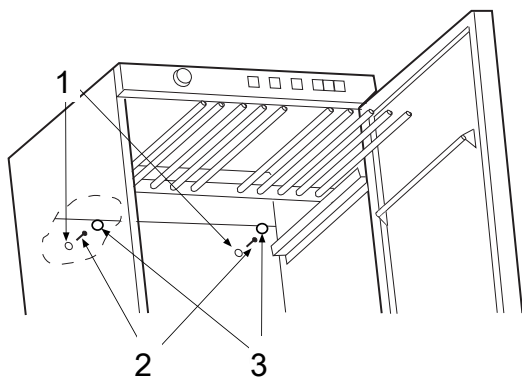

Figure 3
11. Slide the drying cabinet into the recess. Make sure the rear panel of the drying cabinet is up against the wall or the wooden batten (2) at the back of the recess. Also check that the front of the drying cabinet aligns with the sides of the recess.
12. Pull out the top hanger section and screw the cabinet into position using the supplied securing screws, then fit the cover plugs (see figure 3).